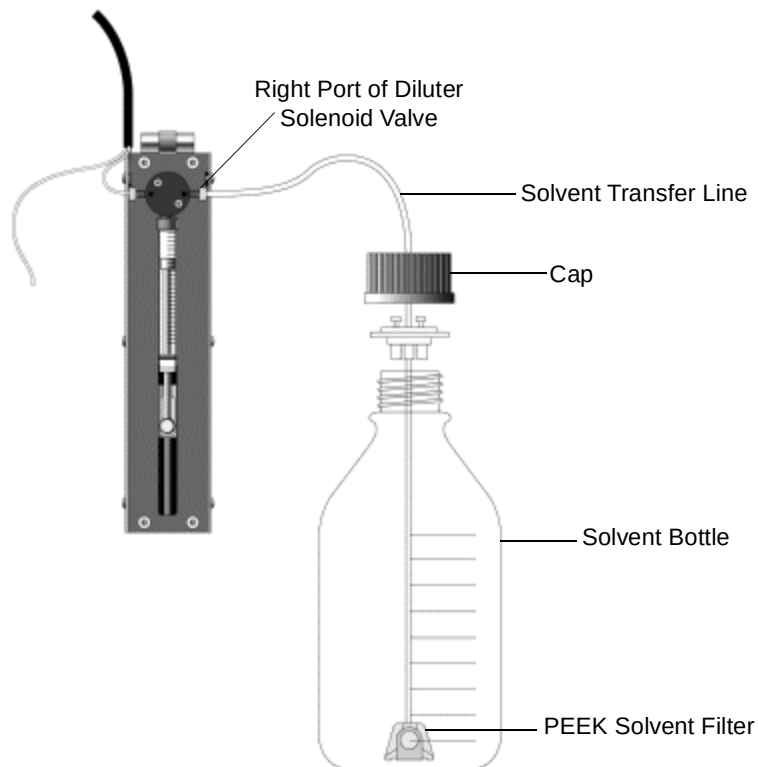

Figure 2-34 Connecting the Solvent Bottle
1. Attach the PEEK solvent filter to the solvent transfer line and insert the filter into the solvent bottle (Figure 2-34).